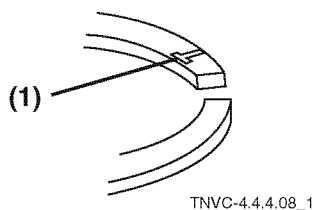

Figure 5-52
2. Install the rings with the manufacturer's mark (Figure 5-52, (1)) facing up.